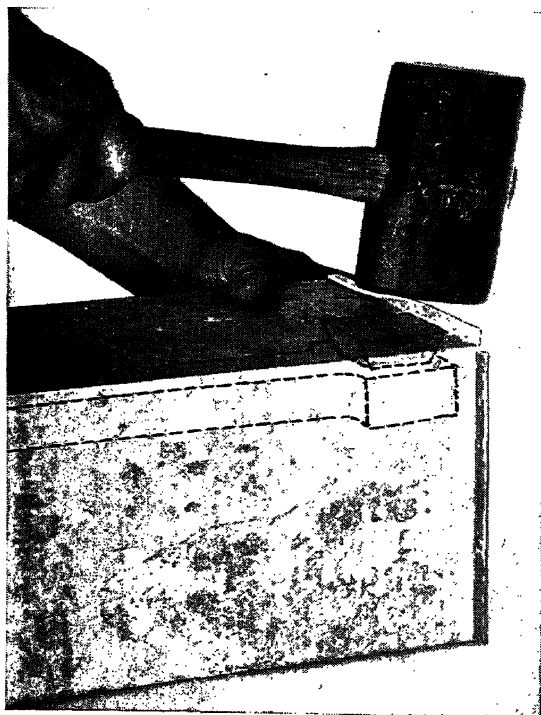

Fig. 66. Double seaming a bottom on a double-seaming stake
**6. Double Seam the Bottom (see Fig. 66)**
Place the container over the end of a seaming stake. With a mallet strike the edge of the fold at a slight angle bending it over about 45 deg. Complete the setting by hammering the seam tightly against the body as shown in Figure 66.